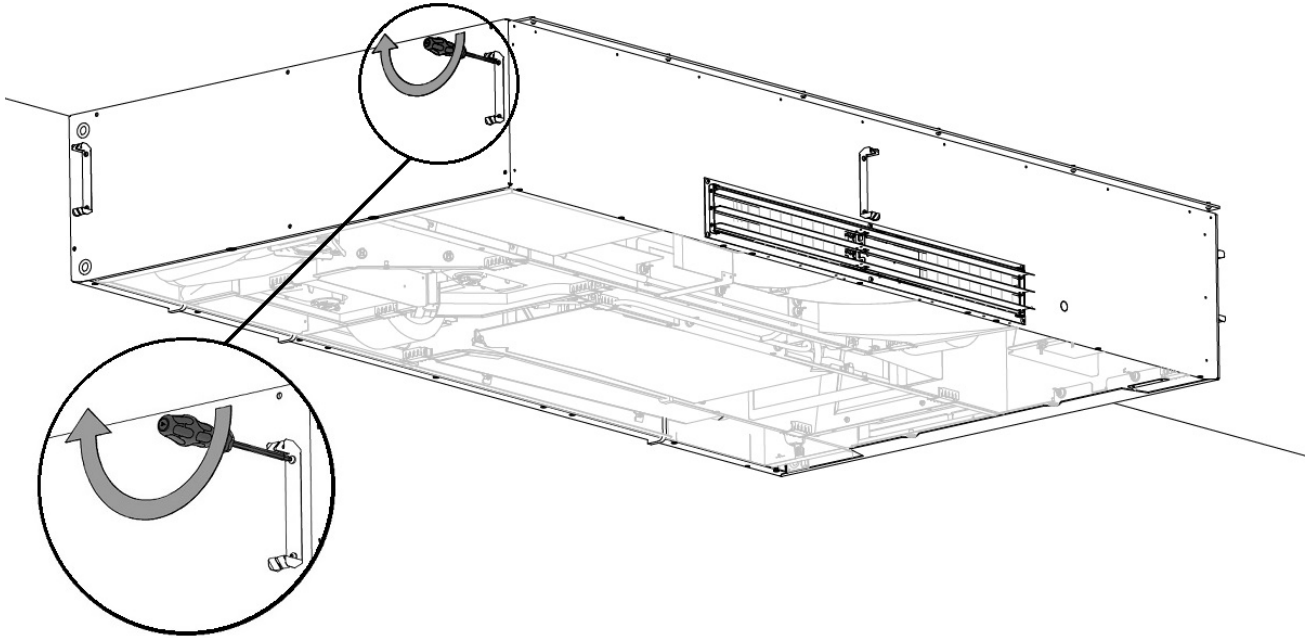

Figure 25: Mount the panel brackets - 1
1. Mount the panel brackets. There are two on each side and one in the front of the unit, see Figure 25 and Figure 26 below.